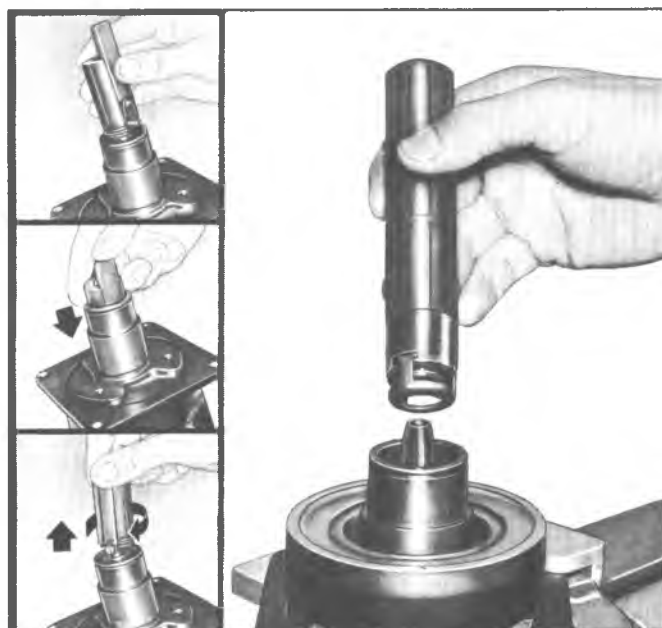

Fig. 13--Replacing Seal and "O" Ring
1. Coat the new shaft seal seat "O" ring with clean Frigidaire 525 viscosity refrigeration oil (or equivalent) and install in the compressor neck groove using Tool J-21508 (fig. 13).
2. Coat the "O" ring and seal face of the new shaft seal assembly with clean refrigeration oil and carefully engage the seal assembly onto the locking tangs of Tool J-9392 (fig. 13). Place shaft Seal Protector J-22974 over the end of the shaft and slide the seal down the shaft, turning the tool clockwise and applying light pressure until the seal assembly engages the flats on the shaft and is seated in place. Rotate the tool counter-clockwise